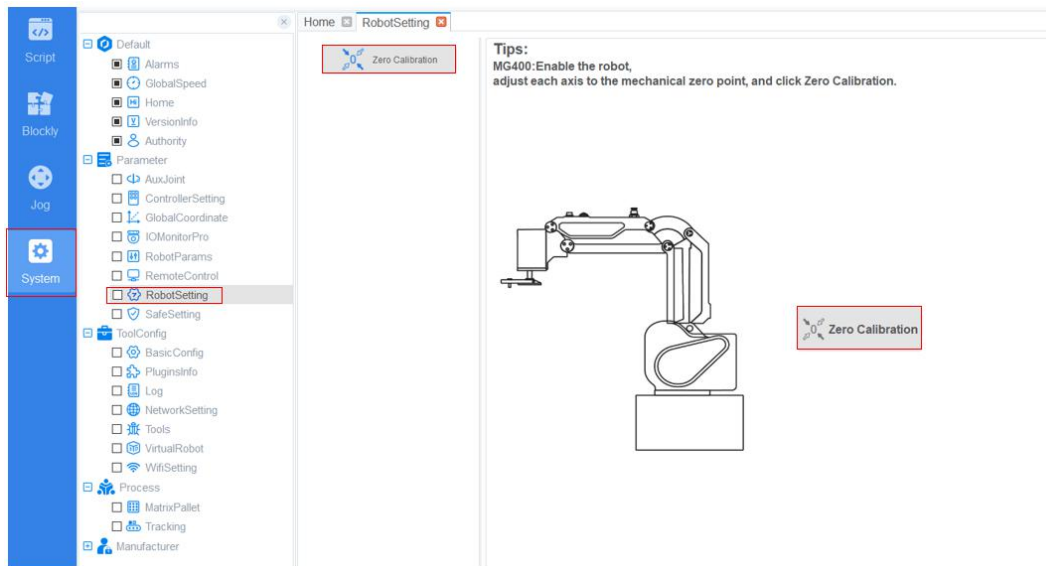

Figure 3.43 Zero Calibration
**Step 1** Click  > **Parameter** > **RobotSetting** > **Zero Calibration** to enter Zero Calibration interface, as shown in Figure 3.43.